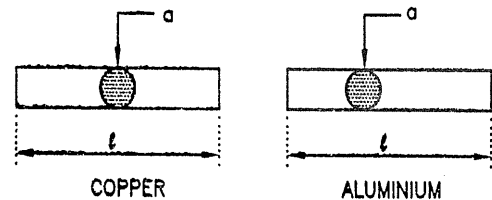

FIG. 1.20
- In Fig. 1.20 two conductors having equal length (l) and equal cross sectional area (a) are shown. One is copper wire and the other is aluminium wire. The resistance of aluminium wire is more. In this case the resistance of aluminium conductor i.e. 1.6 of times that of copper conductor.